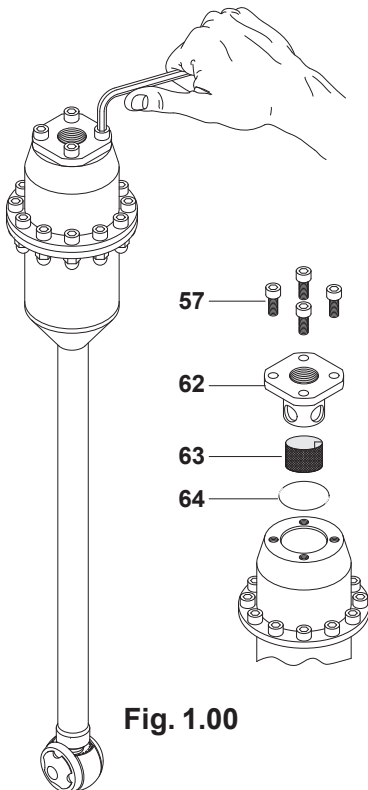

Fig. 1.00
1.1.01) Loosen and remove the screws pos. 57, disassemble the filter holder flange pos. 62, and remove the cartridge pos. 63 (Fig.1.00).